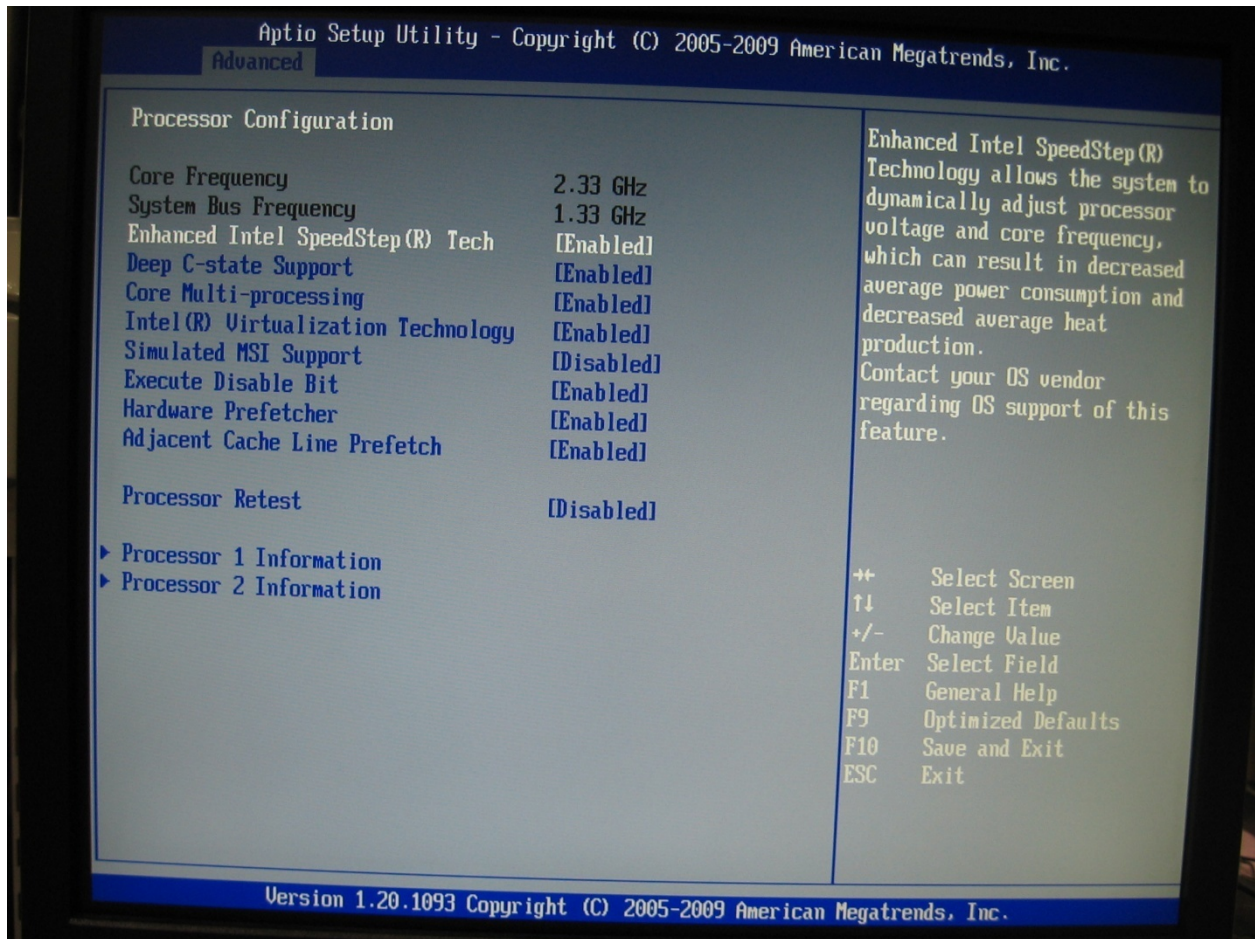

Figure 6-13 Enhanced Intel
3. In the **Advanced Menu** scroll down and select **Enhanced Intel** press **Enter**. (Figure 6-13).